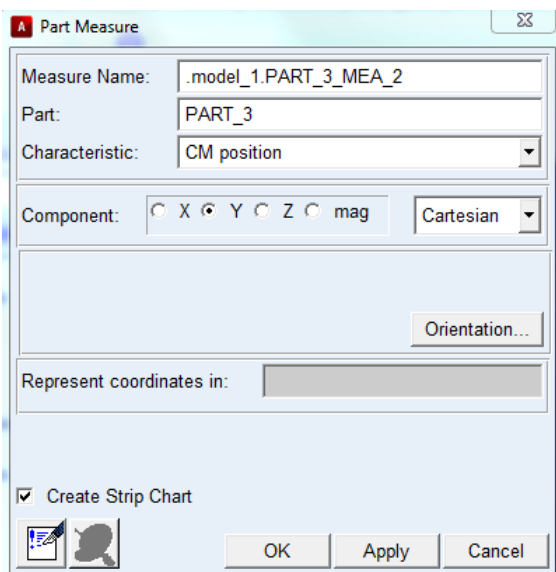

Figure 1.13
- In the appearing window (see Fig. 1.13 below) select